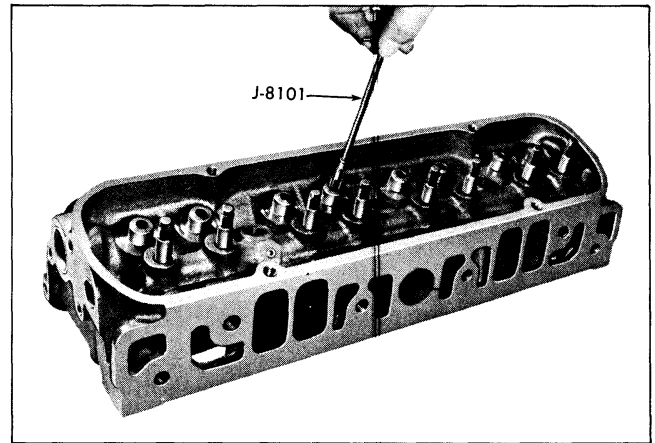

Fig. 6-37 Cleaning Valve Guide with J-8101
4. Clean valve guides thoroughly using valve guide cleaner J-8101 (Fig. 6-37).